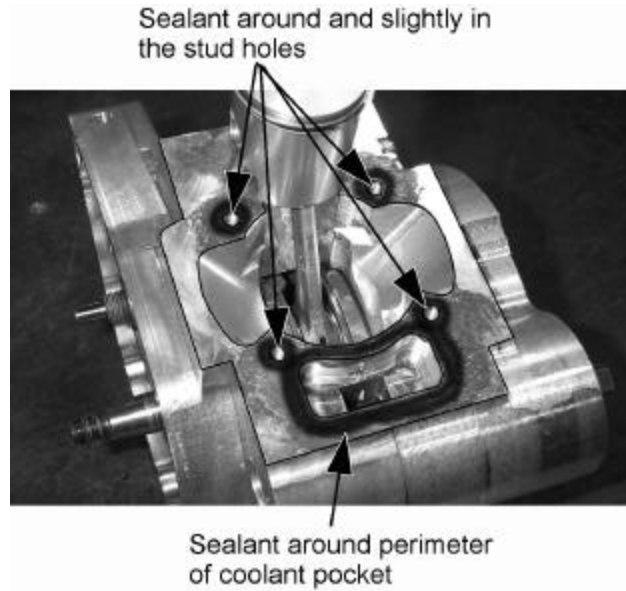

Figure 12
17. Apply gasket sealer (NAPA Aviation Form-A-Gasket #765-1210 or equal) to the cylinder deck areas around the coolant passage and cylinder studs as shown in figure 12.